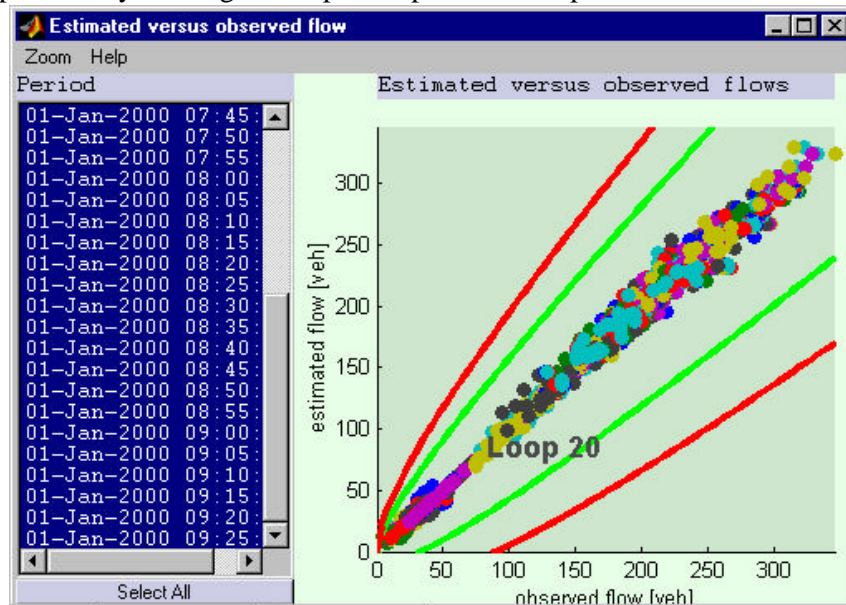

Figure 11: Plot of the estimated flow versus the observed flow for all periods.
- Click on “Plot estimated versus observed flows”. The interface shown in Figure 11 will be visible and the estimated flows are plotted versus the observed flows for all selected periods. By clicking on the plotted points the loop number will be shown.